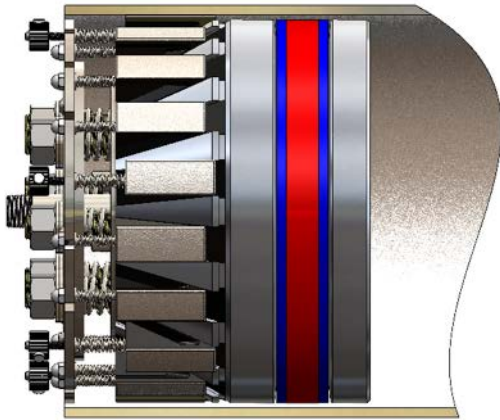

Figure 13: GripSafe ST ORB Auto-Locking Minimum Insertion Depth in a Sectioned Pipe
- 9.4 Insert plug until the top of the **Spring Plate Hub(18)** is at least flush with the end of the pipe, see Figure 13.